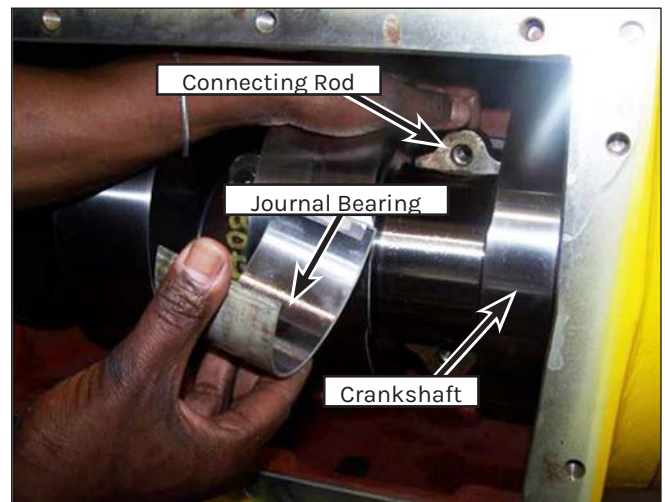

Figure 159: Inner Bearing Removal.
7. To access the inner journal bearing (Figure 159), push the connecting rod away from the crankshaft. Slide the bearing from the rod.